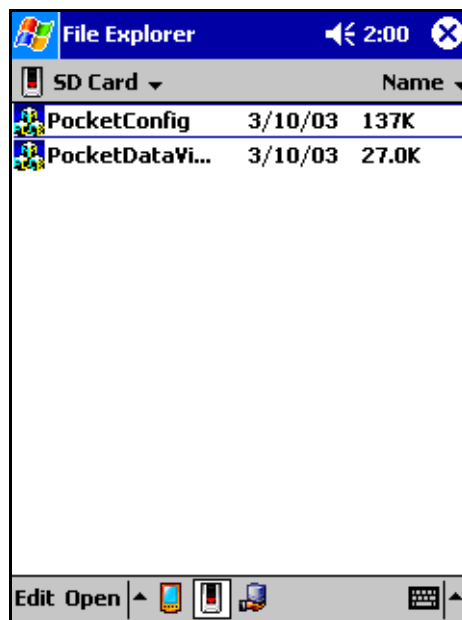

Figure 3-2. WEMS Software Programs on the SD Card.
- 3 Access the files on the SD Card. The SD Card will contain two programs as shown in Figure 3-2 below.